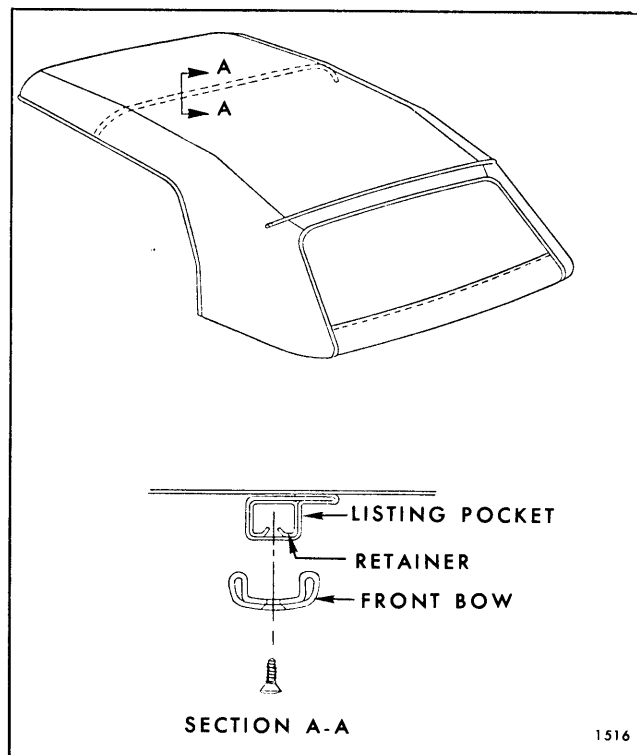

Fig. 13-21—Listing Pocket Retainer
30. Install front bow to listing pocket retainer attaching screws (Fig. 13-21).